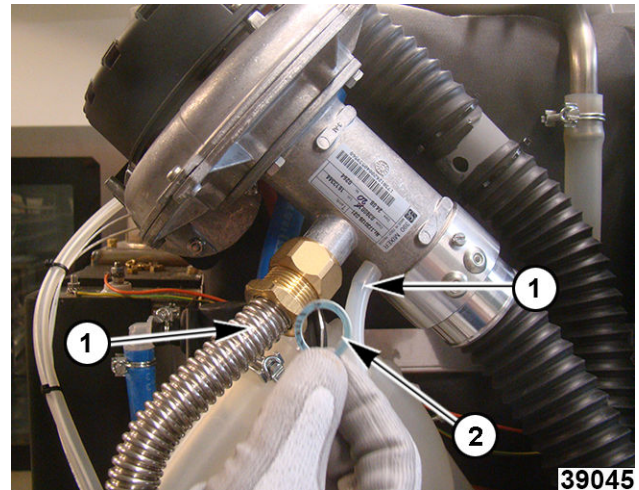

Fig. 109
NOTE: When disconnecting gas pipes, there will be a gasket (2, Fig. 109). Take care not to lose gasket or it may fall into an inaccessible area of the unit.
4. Disconnect gas piping and tubing to gas valves (1, Fig. 109).